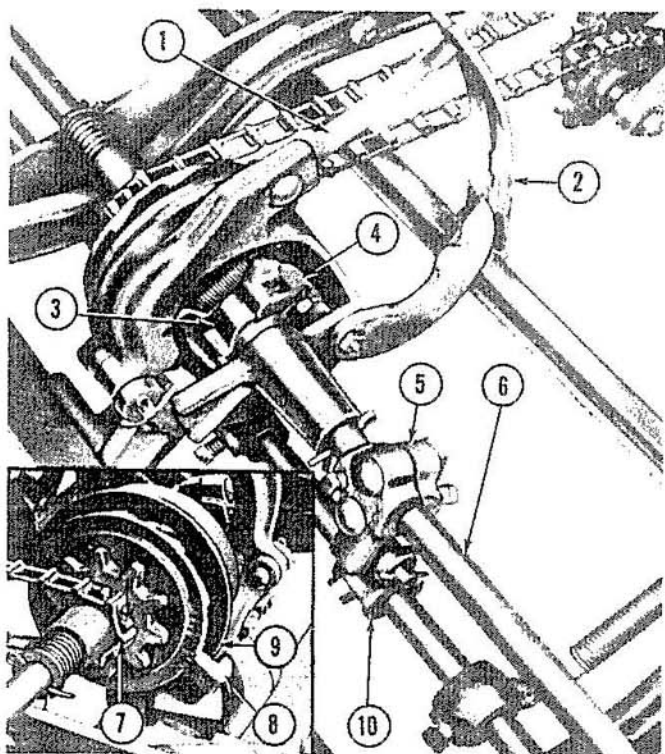
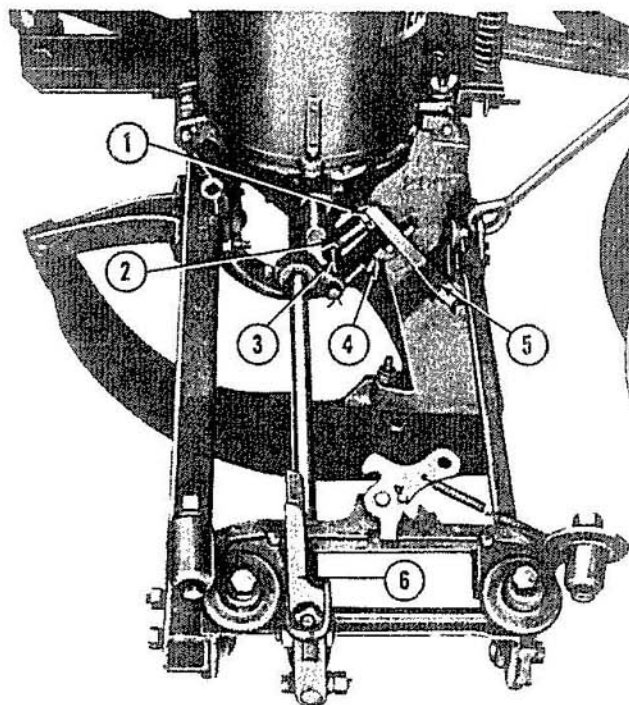
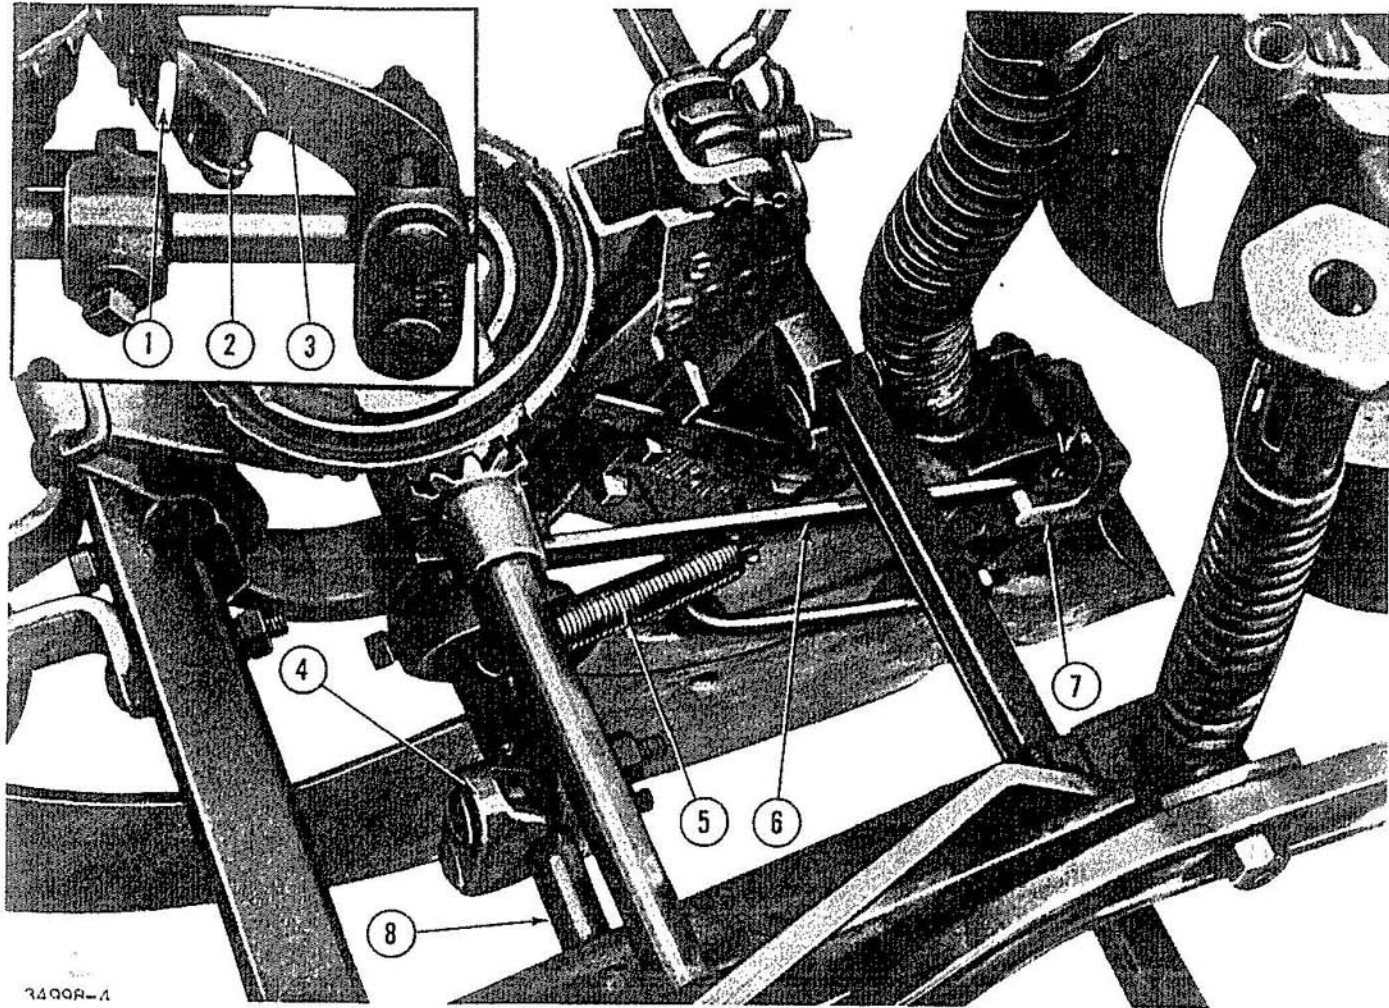

Figure 8
Figure 9
Figure 13
Seed Drop Selector: To obtain the desired number of kernels or seeds per hill perform the following adjustment. From the tractor seat, position the arm (1), Figure 8, in a notch on the quadrant (2). When the arm (1) is in the bottom notch on the quadrant (2), two seeds per hill will be planted. Three seeds per hill will be planted when the arm (1), Figure 8, is in the middle notch, and four seeds per hill will be planted when the arm is in the top position as shown.
The seed selector is used in check row planting only. For hill drop planting the lever (1), Figure 8, must be set in the top position on the quadrant.
- Tilt the seed hoppers forward. Hold the check fork (6), Figure 9, to the extreme rear so that the valves are open.
- If the valves do not open fully loosen the nut (1), Figure 9. Remove the shaft (3) and turn the trunnions (2) in or out until both valves are set the same and are fully open when either check fork is held to the rear.
When preparing the planter for check row planting set the valve adjusting lever (5), Figure 9, on each seed boot for check planting as shown. Place the planter drive chain on the 6-tooth sprocket (7), Figure 8, on the seed shaft and on the 14-tooth sprocket on the axle shaft. The other sprocket combinations are used for drill planting. The proper drop for a good cross check is approximately $1\frac{1}{2}$ inches behind the button on the check wire. This is determined by carefully digging the soil away from over the seed and measuring the drop compared to the checkwire button location. If the hill is too far behind the button the tractor top link should be lengthened. If the hill is too far ahead of the button, the top link should be
When preparing the planter for drill planting set the lever (5), Figure 9, on each seed boot in the notch (4) marked "Drill" and be sure that the seed selector (1), Figure 8, on the clutch is set in the top notch of the quadrant. Refer to the Drill Chart on Page 22, and the Edge Drop Planter Chart, Page 18, for the correct sprocket combination and the desired seed plate.
- Set the valve lever (5), Figure 9, on each seed boot as for check planting as shown.
- Set the seed selector (1), Figure 8, in the top notch of the quadrant (2).
- Loosen the bolts and set screws holding the cams (5) and (10), Figure 8.
- Rotate the clutch dog (8), Figure 8, by hand until the lower face of the dog lines up with the forward edge of the notch in the face of the clutch housing (9).
- e. Rotate the seed shaft (6), Figure 8, until the inner clutch pawl (4) engages with any one face of the ratchet (3).
- f. After the foregoing adjustments are made, set and secure the cams (5) and (10), Figure 8, as shown.
To check this adjustment, lift the planter and turn the planter wheels by hand. The check forks should operate automatically and the clutch dog (8), Figure 8, should not drop into the rest position at any time.
CAUTION: The seed selector lever (1), Figure 8, must always be kept in the top notch of the quadrant (2) when hill dropping. If, for any reason it contacts the inner clutch shaft, the mechanism will fall out of time and planting will stop. The clutch can be retimed by rotating the clutch dog to the position shown at (8), Figure 8, and then turning the seed shaft (6) until the cams contact each other.
7. Position a trip arm assembly (4), Figure 13, on the check shaft (8) inside of each runner assembly as shown.
8. Attach a link (6), Figure 13, to each fertilizer valve arm (7). The link with the bend in it should be placed on the right side of the planter.
NOTE: If the planter is set to plant rows from 28 to 34 inches, it will be necessary to position the trip arm assembly (4), Figure 13, on the outside of each runner assembly. The fertilizer boot valve arms will also be assembled on the outside of the fertilizer boots.
9. Attach the slotted end of each link (1), see insert Figure 13, to the trip arm (3) with the cotter pins provided.
10. Attach the springs (5), Figure 13, to the underside of the trip arms as shown at (2), see insert.
Trip Arms: Adjust each trip arm on the check shaft so that the fertilizer valves are fully open when the check forks are at the end of the rearward stroke. To make the adjustment, hold the check fork (6), Figure 9, in the extreme rear position. Loosen each fertilizer trip arm (4), Figure 13, and position them on the shaft